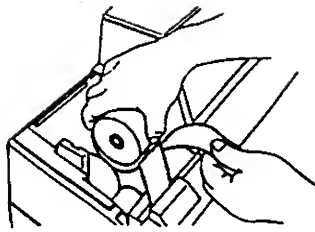

Fig. 7
4. Set the new paper roll in the journal roll holder (righthand side) with the paper end fed from the bottom (Fig. 7).